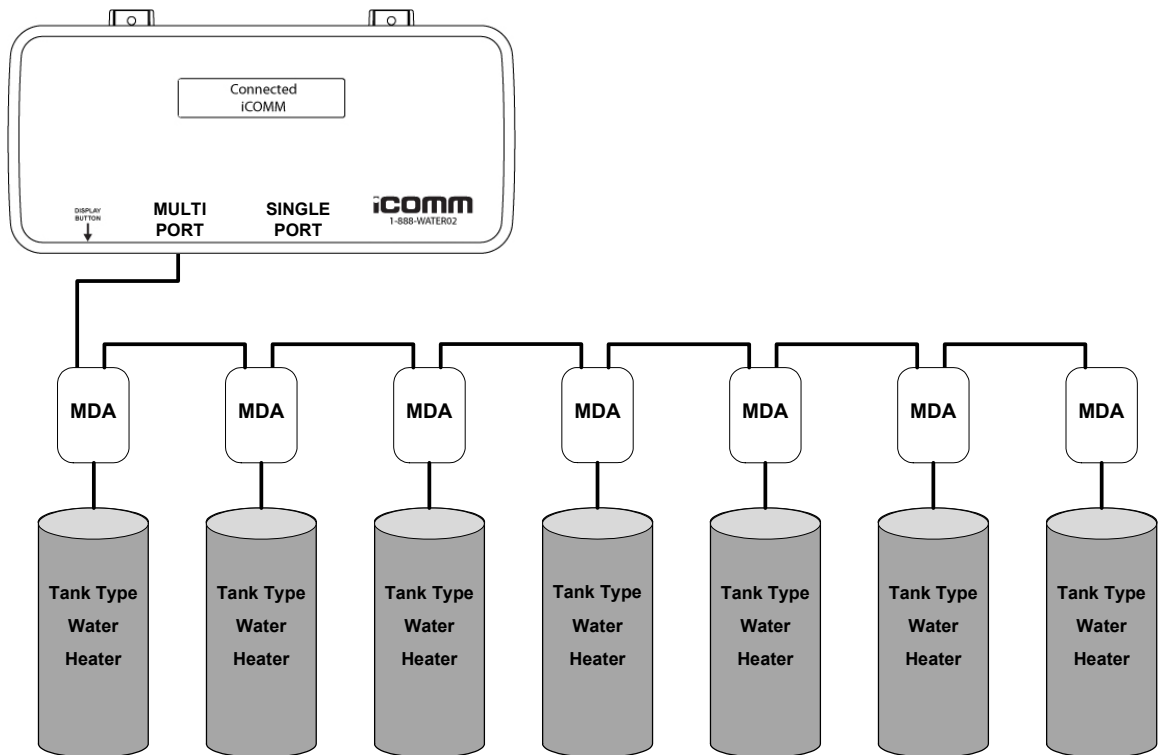

Figure 15
Multiple Appliance Networks are formed by connecting network cables between multiple tank type water heaters and the iCOMM™ system’s CM (communication module) in a “daisy chain” configuration - see Figure 15 on page 20.
- 1 If more than one water heating appliance will be connected to the network the “MULTI PORT” socket on the CM (communication module) must be used to connect the first appliance. See Figure 11 and Figure 15 on page 20.
- 5 Multiple Appliance Networks can have a maximum of 7 tank type water heaters connected to a single CM - see Figure 15 on page 20. If more than 7 tank type water heaters are present additional CMs must be installed.
- 7 Connect the network cable from the CM's MULTI PORT to the first water heater on the network. Plug this cable into an open socket on the first water heater's MDA - see Figure 15 on page 20.
- 8 Connect network cables between the open sockets at each water heater's MDA to complete the network - see Figure 15 on page 20.